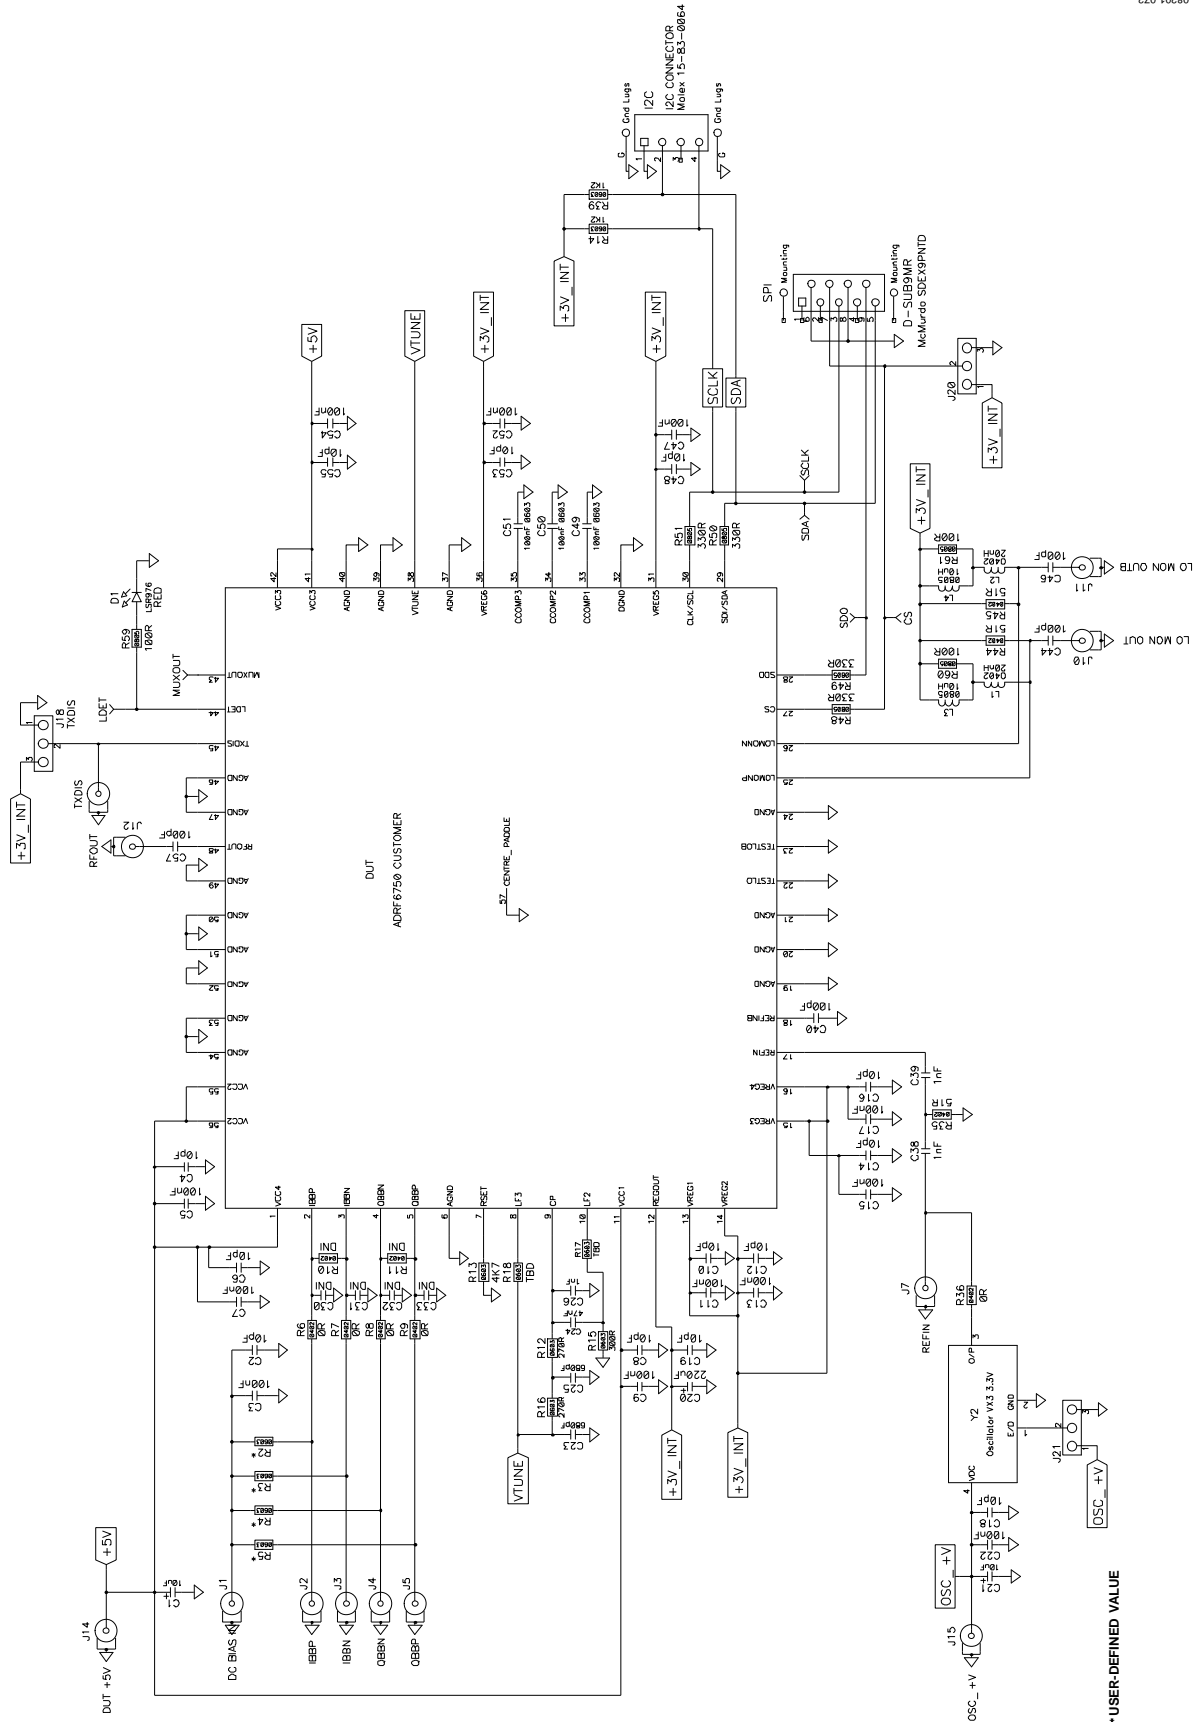

Figure 71. Applications Circuit Schematic
- Write Register CR9: 0x70. With the recommended loop filter component values and $R_{SET} = 4.7 \text{ k}\Omega$, as shown in Figure 71, the charge pump current is set to 2.5 mA for a loop bandwidth of 50 kHz.
For more information, refer to the circuit diagram in Figure 71.